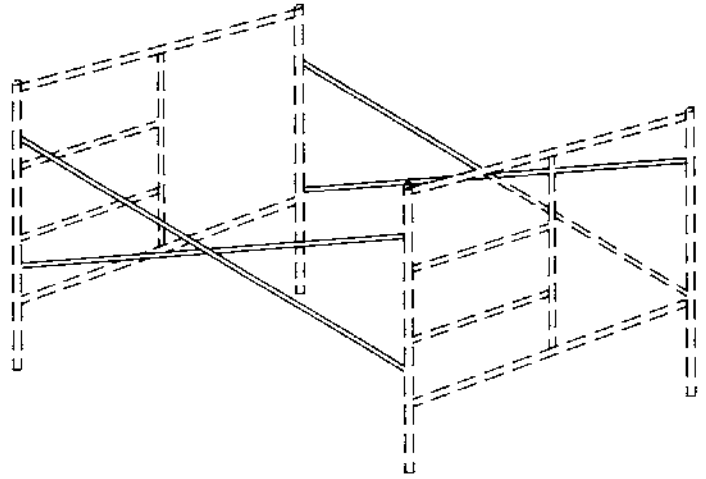

Fig. 2
3. Insert casters and secure with attaching pin or bolt. Set brakes on all casters (Fig. 2) before proceeding with tower erection. If leveling casters or extensions are used, secure with stem retainer clamp, wire, or other suitable means (Fig. 3). Do not extend leveling screws more than 12". If application does not call for a Rolling Tower, follow above procedure and replace casters with leveling jacks (Fig. 4) or base plates (Fig. 5) on mud sills.